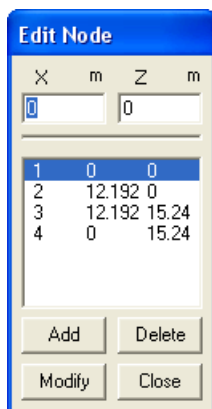

Figure 7-2 Edit Node dialog box
- From the **Edit** menu, choose **Edit Node**. The model's dialog box of Figure 7-2 appears.